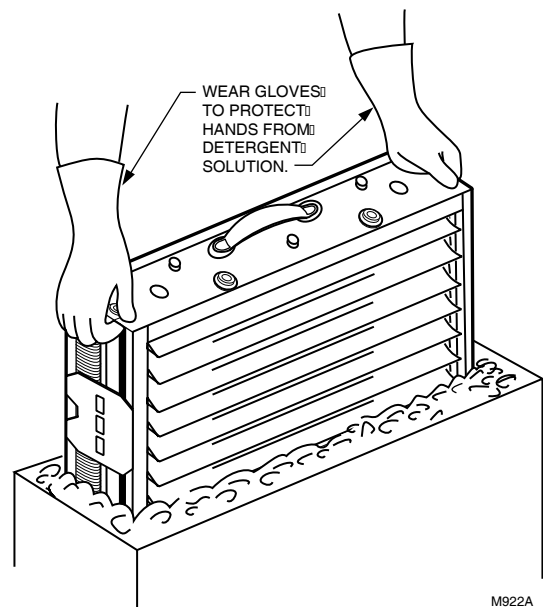

Fig. 14. When cleaning cell, agitate in detergent solution.
5. Soak the cell in the solution for up to 15 minutes. Agitate the cell in the solution if necessary. See Fig. 14.